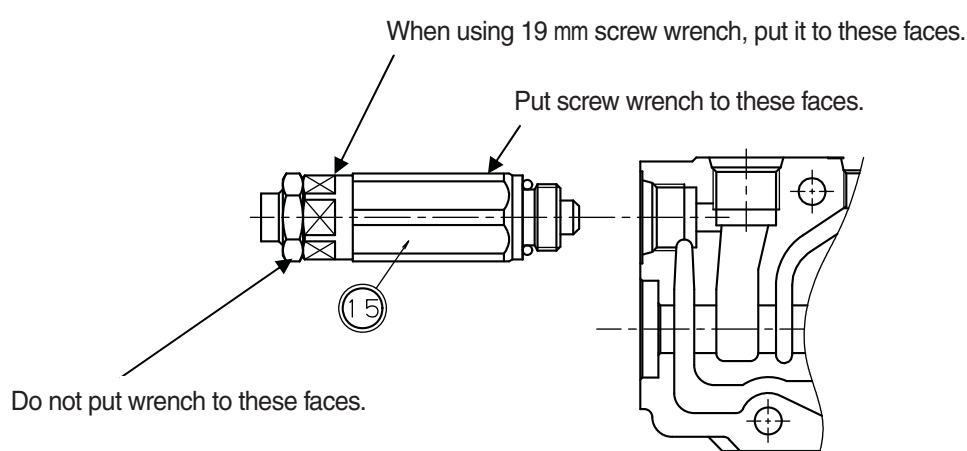

Fig.7 Removing main relief valve and overload relief valve
Taking ORV in the arm component as an example, the removal procedures are as follows (see Fig.7)
- ① Loosen and remove ORV (15) with 22 mm screw wrench or deep socket wrench.
- If there is no 22 mm screw wrench (or deep socket wrench), it is also possible to loosen and remove by putting 19 mm screw wrench to the hexagonal part as shown in the fig.7.